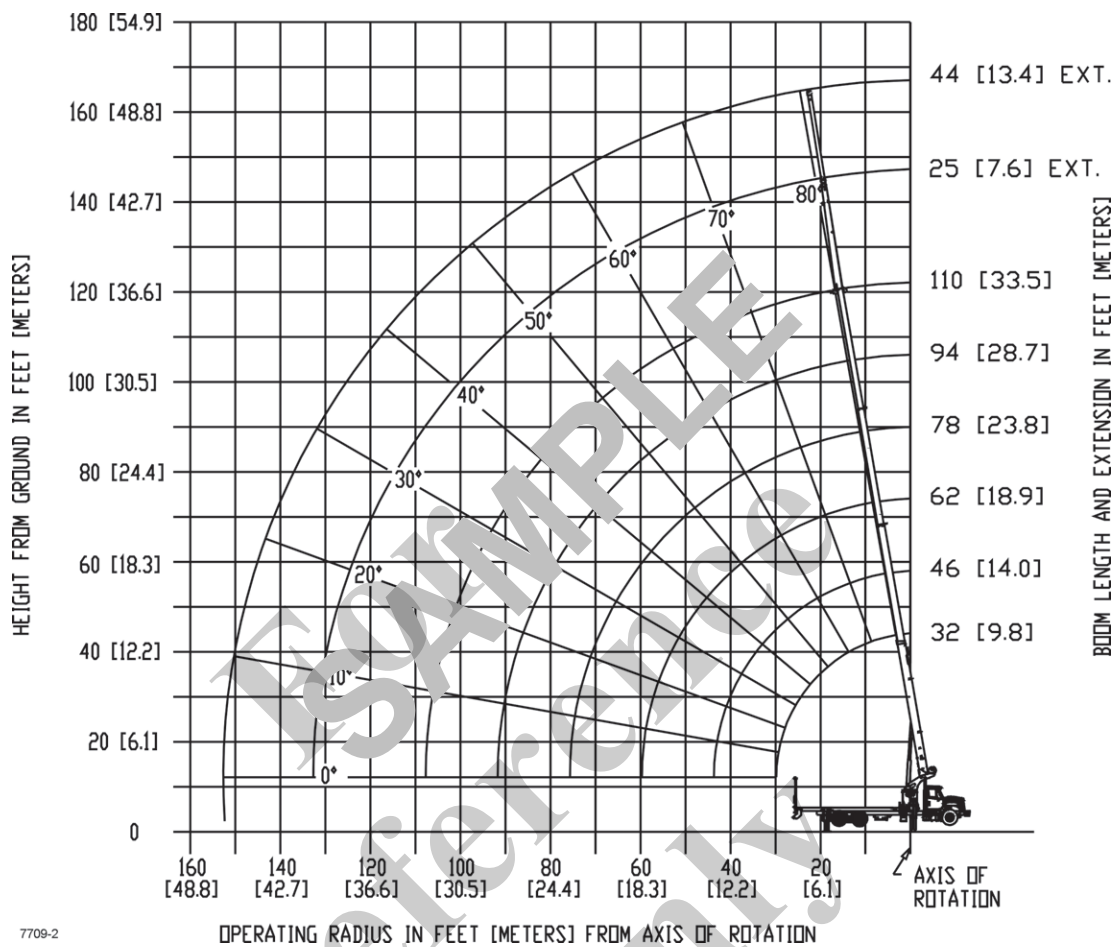

FIGURE 3-6
- **Range Diagram** - The range diagram (Figure 3-6) shows the operating radius and height of the unloaded boom nose at all boom lengths and angles. It should be used as a guide to position unloaded loadline and to determine to approximate height to which the load can be lifted.
- The range diagram (Figure 3-6) shows the operating radius and the height from horizontal of the unloaded boom.